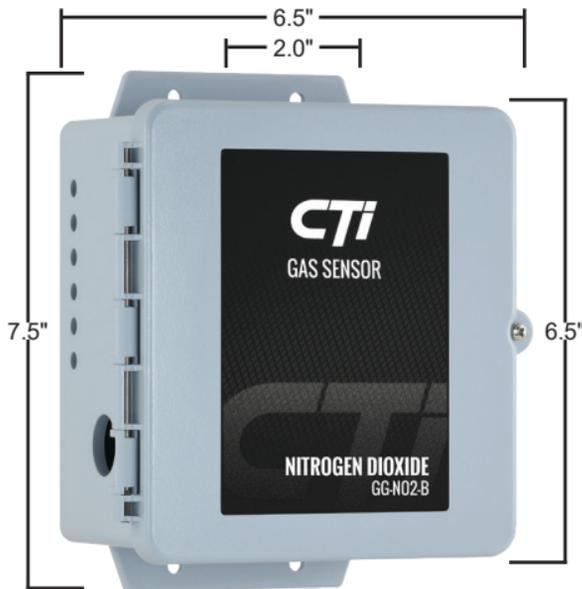

Figure 1: Mounting Dimensions
- Mount sensor enclosure through the mounting holes as shown in Figure 1.